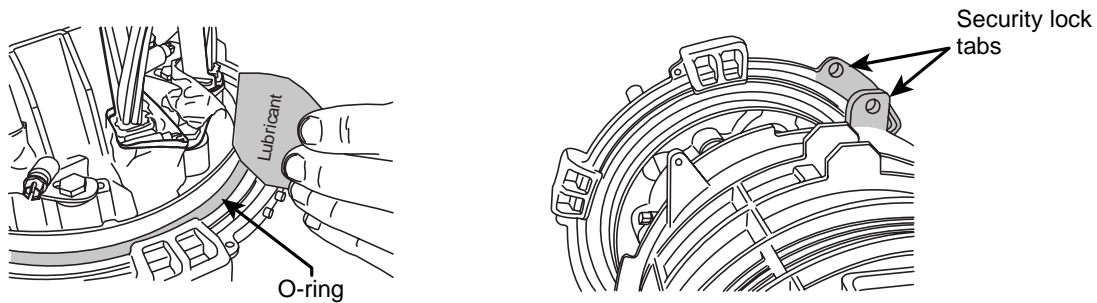

Figure 15
1. Apply a small amount of lubricant to the O-ring prior to closure sealing (Figure 15).
2. Carefully locate the cover over the endcap ensuring that the security lock tabs on the cover and endcap line-up (Figure 15).